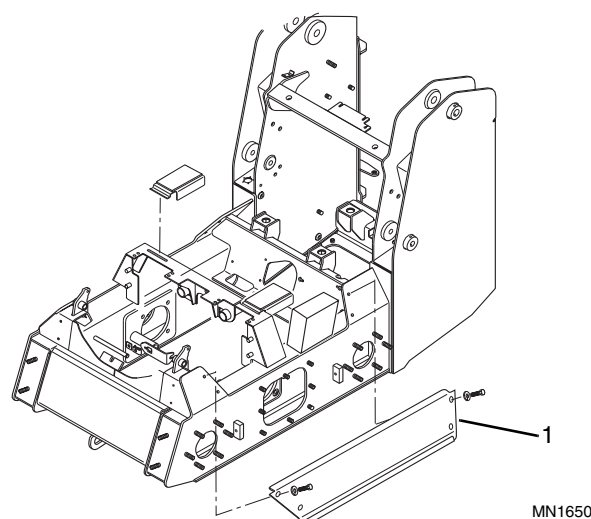

Figure 9-47 Chassis Panel Installation
42. Replace the left (Fig. 9-47, 1) and right (not shown) side panels on the chassis.